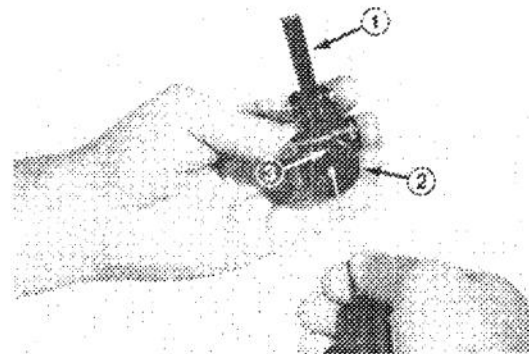

Figure 10
3. Lift the trigger in the bracket so anchor slot in trigger is exposed and slip the cable end into the anchor slot (Fig. 10).